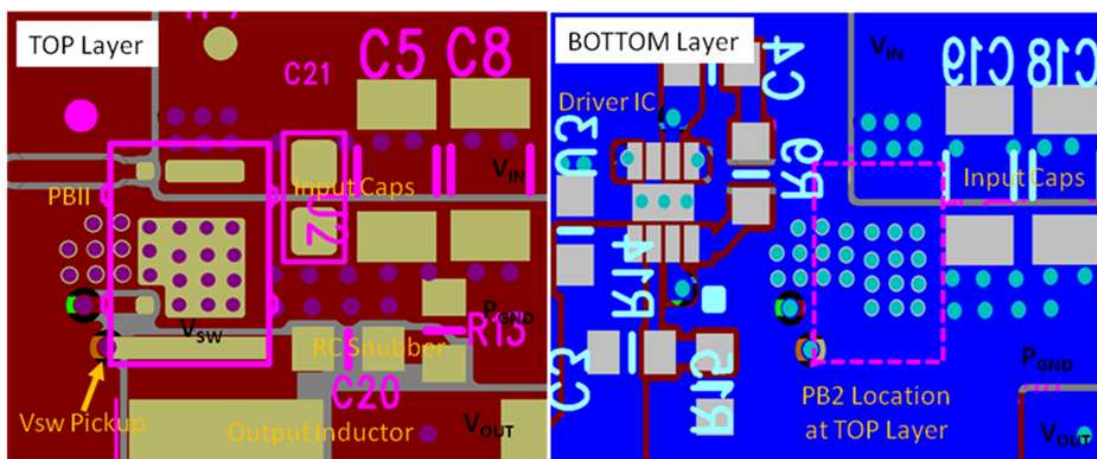

Figure 29. Recommended PCB Layout (Top Down View)
- The placement of the input capacitors relative to VIN and PGND pins of CSD87384M device should have the highest priority during the component placement routine. It is critical to minimize these node lengths. As such, ceramic input capacitors need to be placed as close as possible to the VIN and PGND pins (see Figure 29). The example in Figure 29 uses  $1 \times 10 \text{ nF}$  0402 25 V and  $4 \times 10 \mu\text{F}$  1206 25 V ceramic capacitors (TDK part number C3216X5R1C106KT or equivalent). Notice there are ceramic capacitors on both sides of the board with an appropriate amount of vias interconnecting both layers. In terms of priority of placement next to the Power Stage C21, C5, C8, C19, and C18 should follow in order.
- The switching node of the output inductor should be placed relatively close to the Power Block II CSD87384M VSW pins. Minimizing the VSW node length between these two components will reduce the PCB conduction losses and actually reduce the switching noise level. See Figure 29. (1)
- Use the smallest drill size allowed in your design. The example in Figure 29 uses vias with a 10 mil drill hole and a 16 mil capture pad.